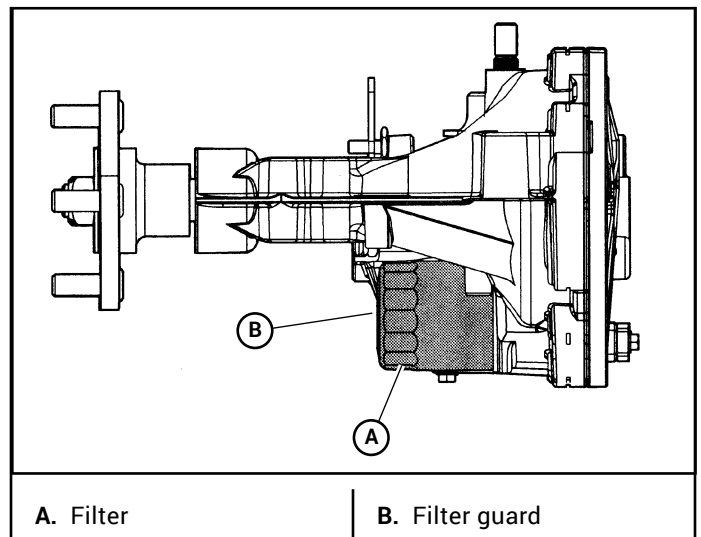

Figure 4-3
**NOTE:** The filter guard must be removed to access the filter. Figure 4-3
Each transaxle's filter is located per Figure 4-3. A standard oil filter wrench is used to change filter; threads are right handed. Use a Hustler® approved filter element only.